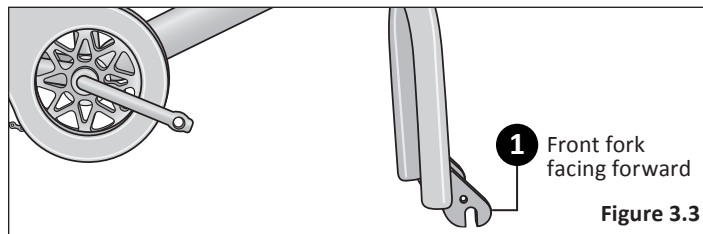

Figure 3.3
- 1 Turn the front fork to face forward. **Figure 3.3**
- 1 Turn the front fork to face forward (ie: the fork dropout is in the furthest forward position). **Figure 3.3**